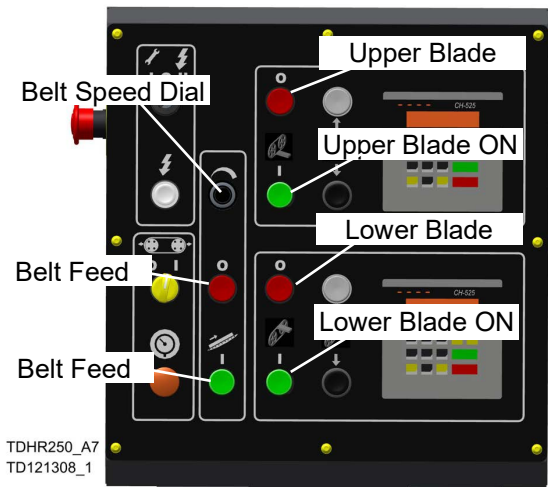

FIG. 4-7
4. Press Belt Feed "ON" button. See FIG. 4-7